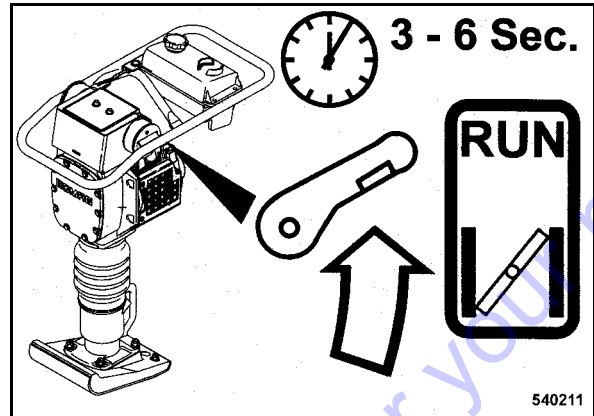

Fig. 15
- Open the choke (Fig. 15) 3 to 6 seconds after the engine has started running.